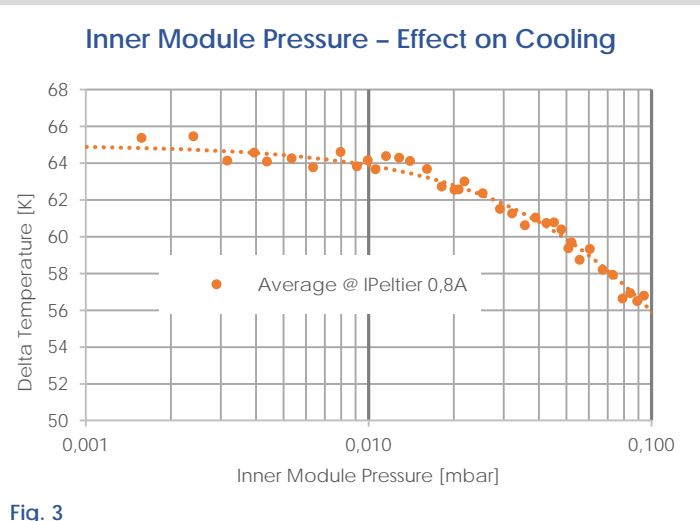

Fig. 3
**The getter can be reactivated** by heating with an electrical current of about 5 A in a defined procedure. In the event that the getter reaches its capacity limit, the pressure increases faster. When the inner module pressure is in the range between 0.02 mbar to 0.1 mbar, PNDetector recommends reactivation of the getter for maintaining the advantages of the vacuum housing. In this range, the first decrease of the Peltier cooling efficiency can be observed (see fig. 3).